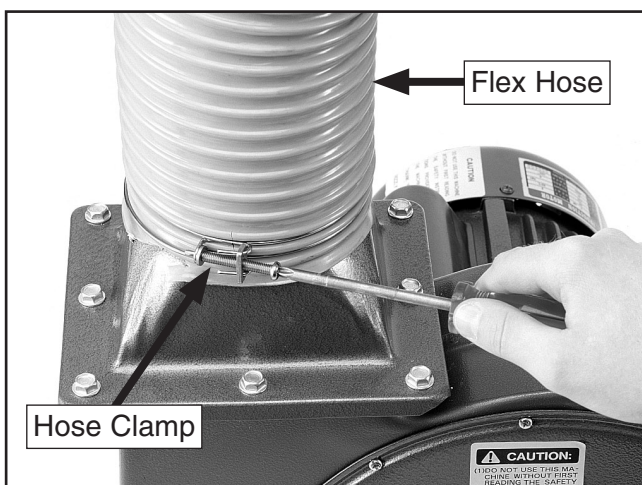

Figure 10. Attaching flex hose onto collector body outlet.
- Slip a loosened hose clamp over each end of the flex-hose, and attach the ends over the collector and collector body outlet. Tighten each hose clamp until snug, as shown in **Figure 10**.